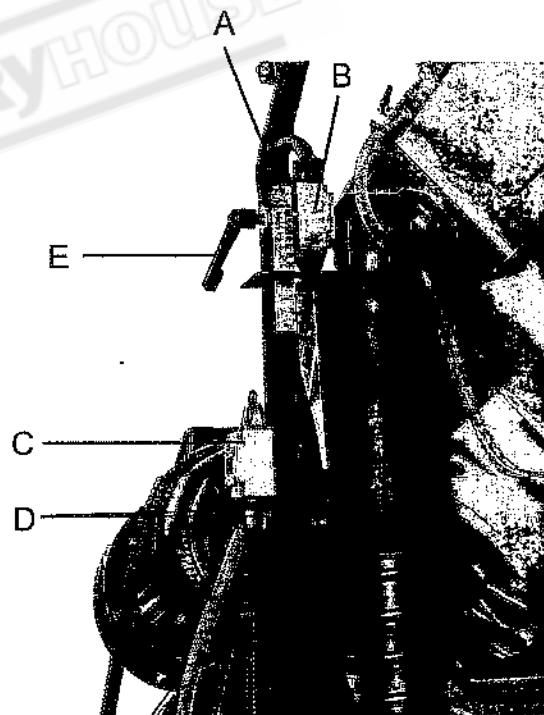
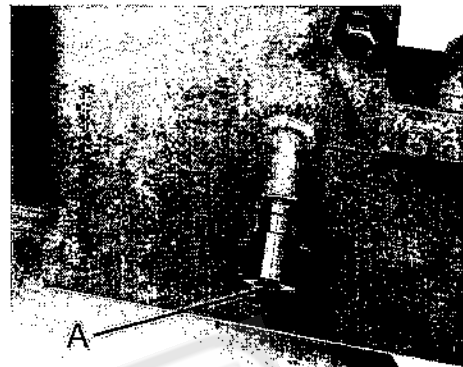

Fig. 12
Fig. 14
2. Release the limit switch (B - Fig. 12) by loosening the handle (E - Fig. 12).
3. According to the scale (A - Fig. 12) to set the desired measurement of the saw arm raising position.
4. Tighten the handle (E - Fig. 12).
5. If the saw does not stop automatically after a complete cut, the micro switch (C - Fig. 12) needs to be adjusted. Please refer to the section of by loosening the two screws (D - Fig.12) *Automatic Shut-off Adjustment*.
The dampener (fig. 14) functions to produce a finer cut by reducing the rate of down-bow when blade nears the table. The width of measurements of the blades between inch size and mm size are slightly different. This saw is equipped with inch size blade at the factory, if the user did not get the inch type but instead got a mm size blade, it is necessary to adjust the dampener by turning the cap screw (A - Fig. 14) clockwise about 1/4 revolution, and also adjust the limit switch (C-Fig. 12). Otherwise, the saw bow will not automatically rise up after completing the cut.
Note: If the bow or blade fails to stop, the limit switch (C - Fig. 12) must be raised.
1. Loosen 2 screws (D - Fig. 12).
3. Tighten 2 screws (D - Fig.12).